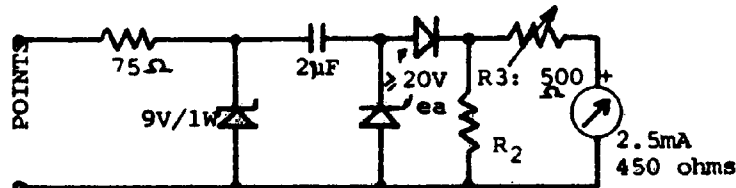

FIG. 3: IMPROVED TACH. FOR CD ONLY.
0-2.5mA 270° movements as found in radio altimeters prove excellent for this application when a new dial is fitted. Fig. 3 gives typical values for the use of such a movement, and the chart gives the range of critical resistance values for various speed ranges for different kinds of engines.
This relationship applies only to the circuit of fig. 3, above. The formula is interesting, because it shows that if the meter is not sufficiently sensitive (I_c) for a given number of cylinders (N) and RPM (S), it can't be used in this circuit (R_2 goes negative), at least not without increasing the 2 uF capacitor (giving a different value than 0.12).